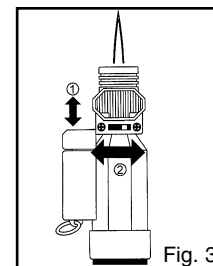

Fig. 3
Hands free mode (figure 3)
- **From Hands free use:** Slide hands free slide stem to full left position. Unit will shut off immediately (figure 3).